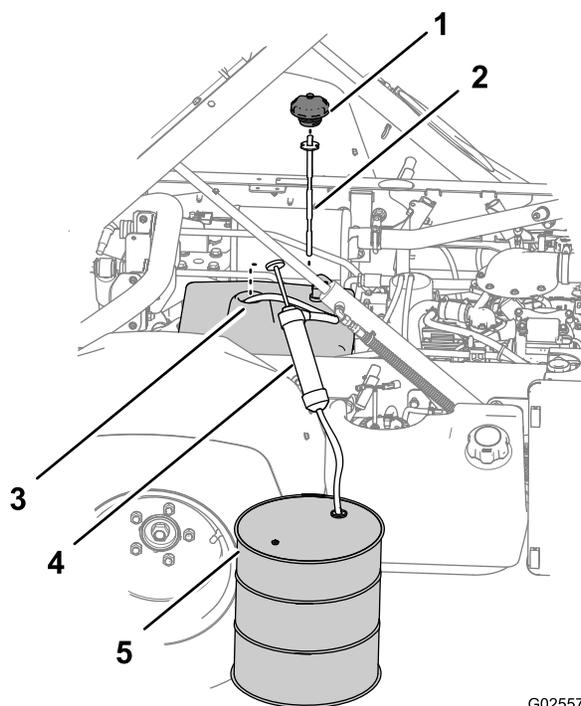

Figure 91
3. Remove the cap and dipstick from the filler neck of the reservoir (Figure 91).
4. Route the intake hose of the siphoning equipment through the filler neck of the hydraulic reservoir and to the bottom of the reservoir (Figure 91).
5. Direct the discharge hose of the siphoning equipment into a collection container (Figure 91) with a 11.4 L (3 US gallon) capacity—Non-TC model or 18.9 L (5 US gallon) capacity—Non-TC model with the High Flow Hydraulic Kit (option) or TC model.
- Remove the siphoning equipment from the reservoir (Figure 91).
- Add 7.5 L (2 US gallons)—Non-TC model or 15.1 L (4 US gallons)—Non-TC model with the High Flow Hydraulic Kit (option) or TC model of the specified hydraulic fluid into the hydraulic reservoir (Figure 91).
- Install the dipstick and cap to the filler neck of the hydraulic reservoir (Figure 91).